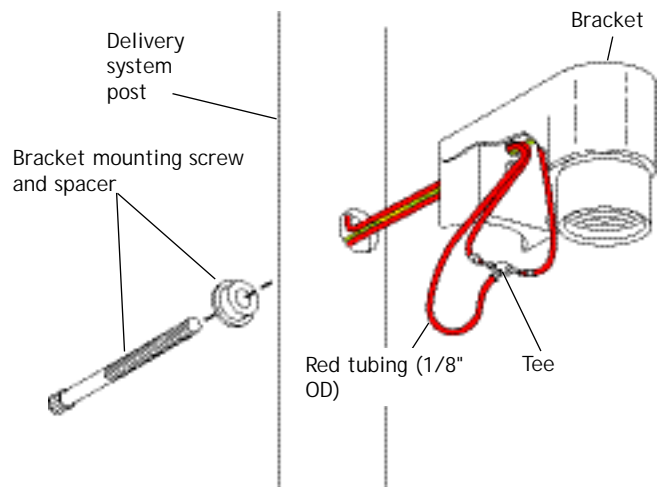

Figure 14
coming from the chair-mount end of the delivery system post (see Figure 14) and route the tubing through the tubing hole in the bracket
5. Connect the three lengths of red tubing (1/8" OD) using a tee and uni-clamps (see Figure 14). Push